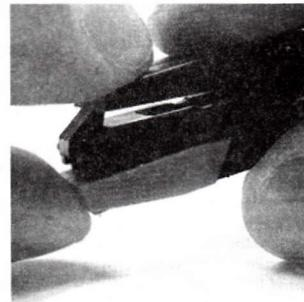

FIG 6a
- While applying gentle pressure on the top of the TONEARM (2) with your index finger, carefully push the Stylus Assembly upwards until you hear a click and the Stylus Assembly locks into place (Fig 6a).